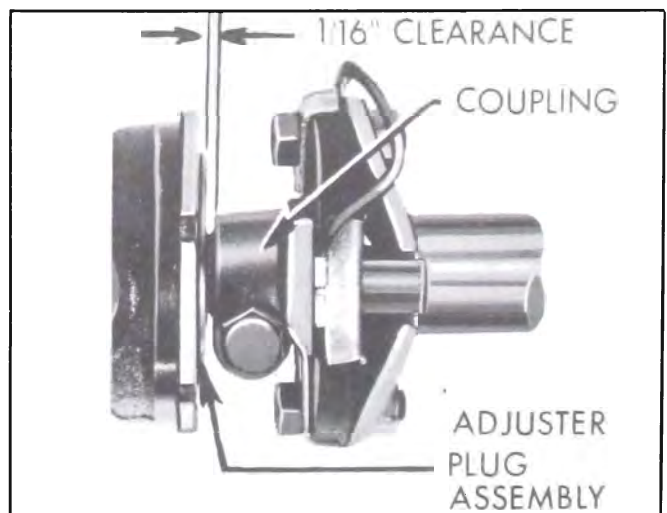

Figure 8-41—Correct Installation of Lower Coupling
3. On Synchronesh cars install lower coupling on gear stub shaft. There must be at least 1/16" clearance between coupling and adjuster plug. See Figure 8-41.
7. Align flat section in lower flange with flat on stub shaft and install flange. Center bolt hole on flange with groove on stub shaft. Install pinch bolt and tighten to 30 ft. lbs. There must be at least $1/16$ " clearance between coupling and adjuster plug. See Figure 8-41.
6. Align flat section in lower flange with flat on stub shaft and install flange. There must be at least 1/16" clearance between coupling and adjuster plug. See Figure 8-41. Center bolt hole on flange with groove on stub shaft.